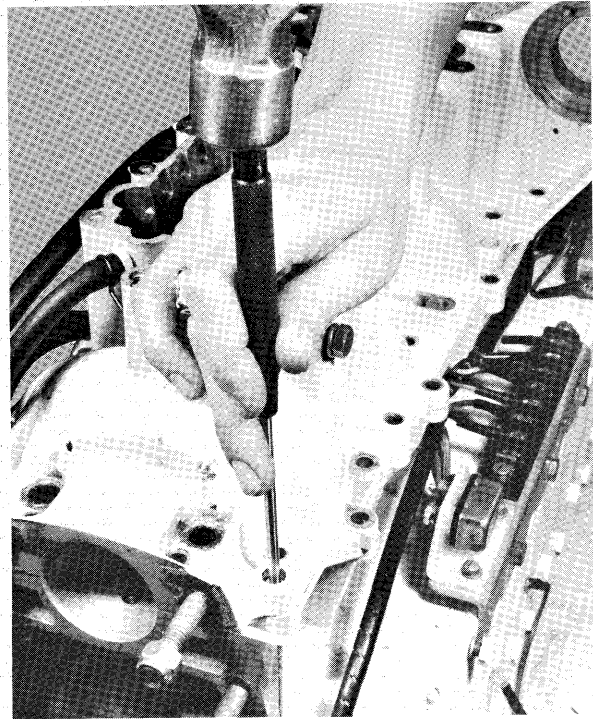

Figure 4—Driving Out Dowel Pins
- E. Drive two (2) dowel pins positioning crankcase cover on cylinder out as shown in figure 4.